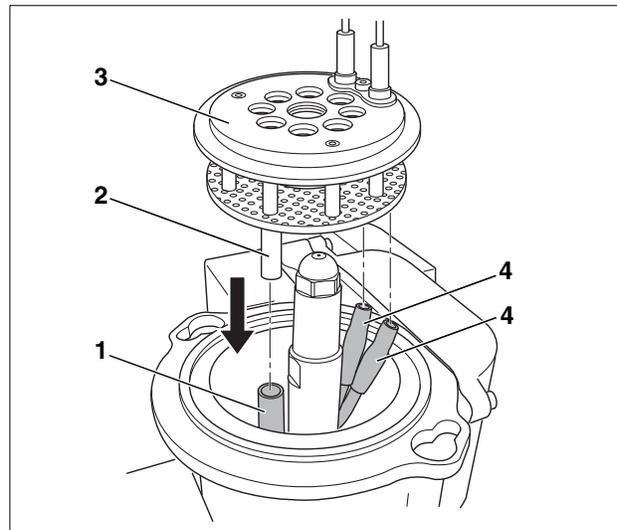

Fig 28 Assembly of mixing system/diffuser plate
- Re-assemble mixing system/diffuser plate (Fig. 28, **Item. 3**).
- Correctly connect the ignition cables (Fig. 28, **Item. 4**).
- Slide the positioning rod (Fig. 28, **Item. 2**) back into its proper guide rod (Fig. 28, **Item. 1**).